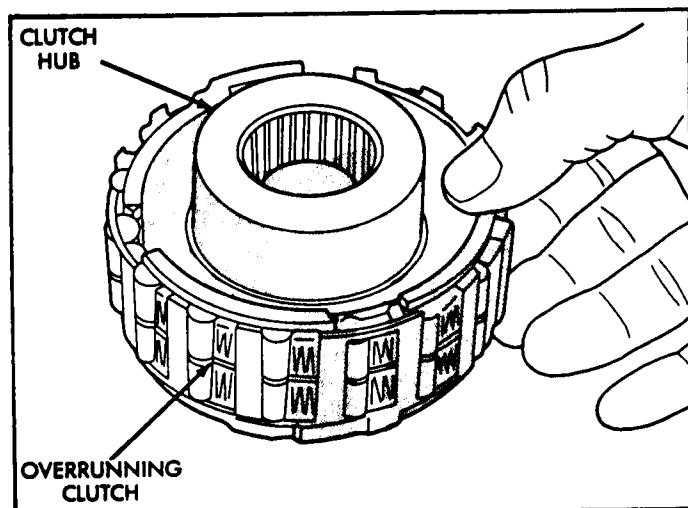

Figure 6
8. Install the overrunning clutch on the hub (Inner Cam), as shown in Figure 6. Note that roller clutch only fits one way. Shoulder on roller clutch should seat in small recess at edge of hub.